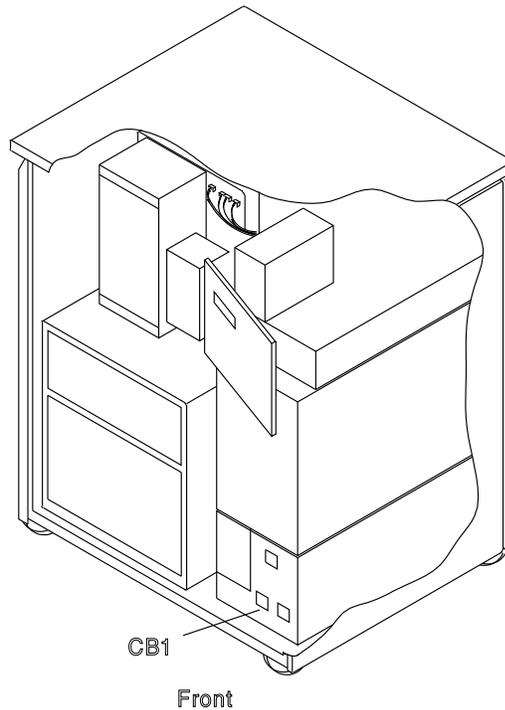

Figure 4-129. CB1 Location
4. **Switch CB1 OFF.** Refer to Figure 4-129.